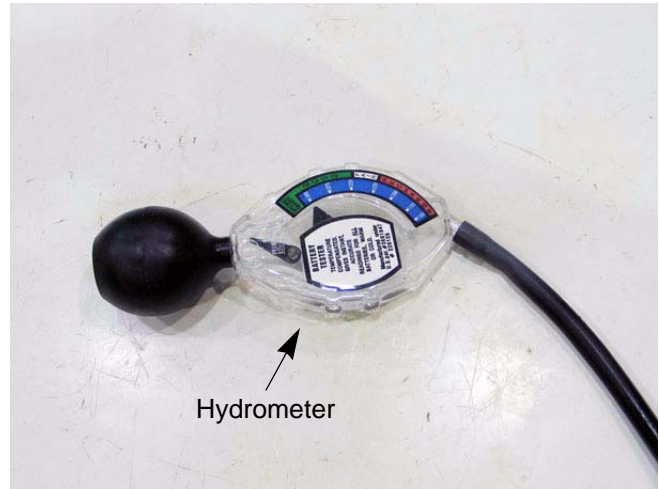

Figure 7.50
3. Hydrometer test (non-sealed batteries only). See Figure 7.50.